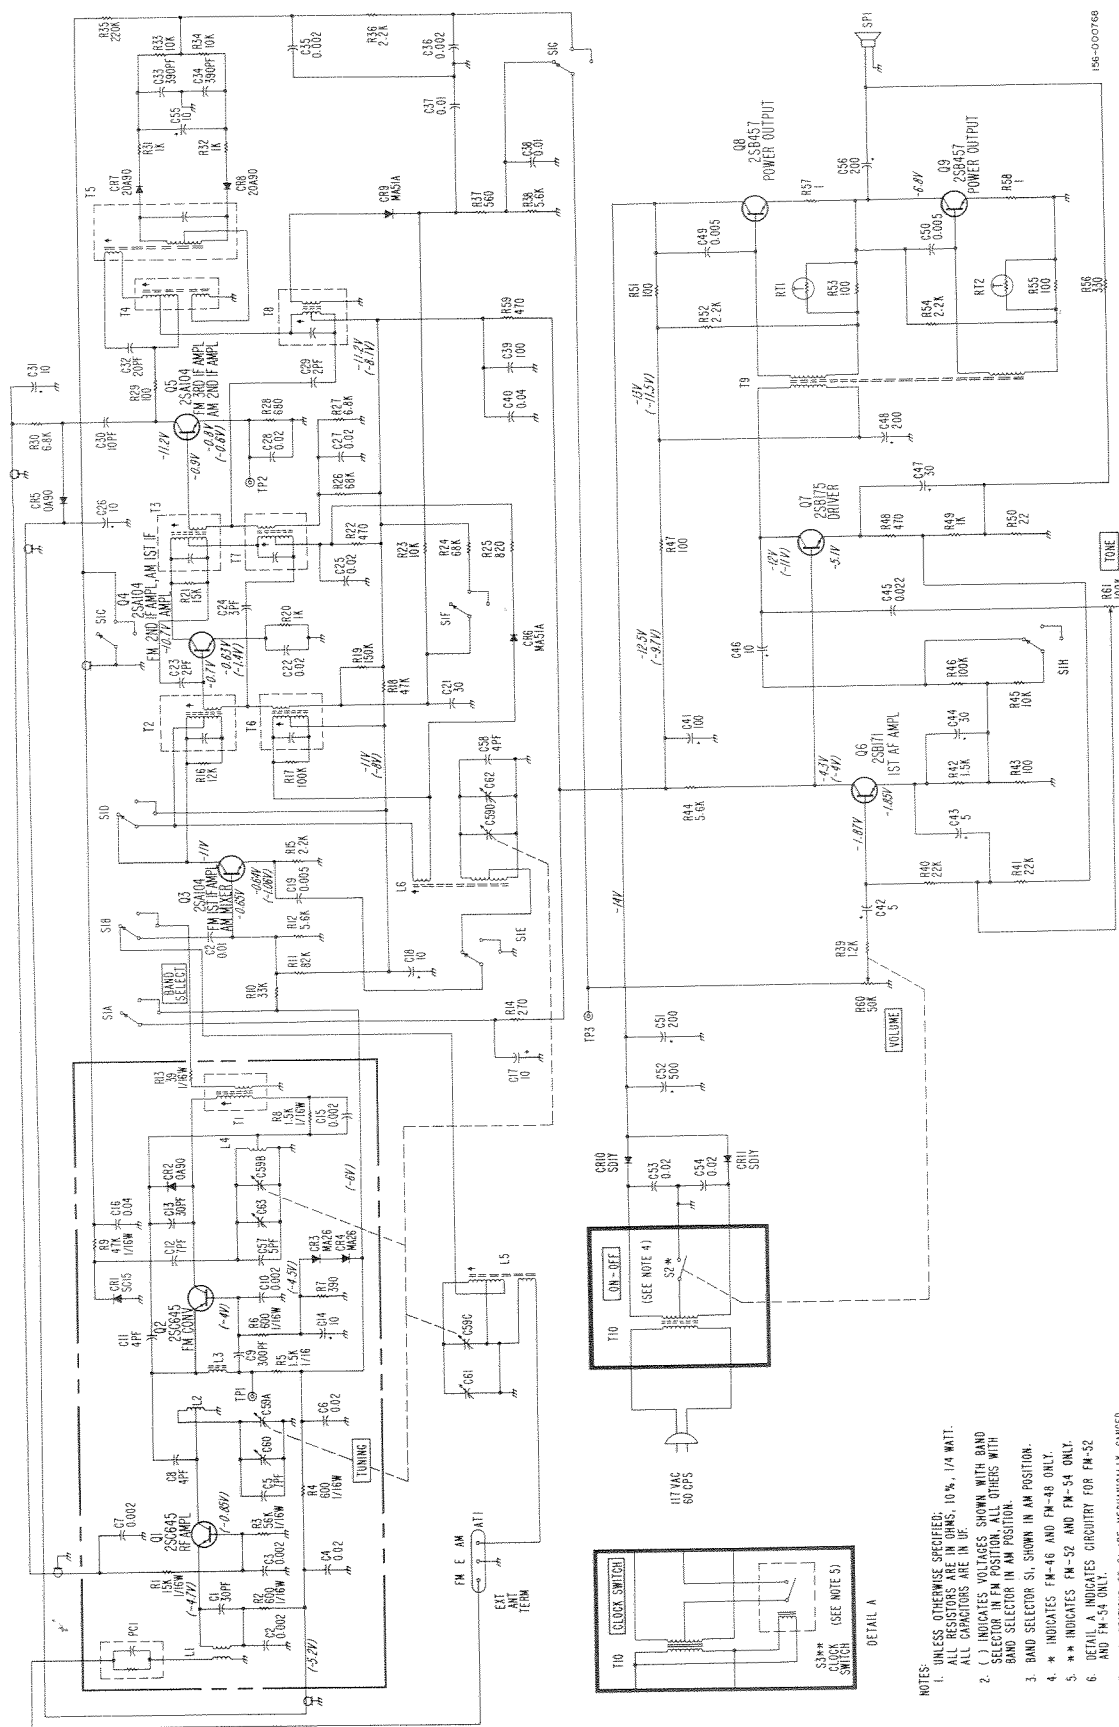

Figure 8. Schematic Diagram. Models FM 46, 48, 52 and 54.
1. The reference designation of C2, connected between the selector switch arm of S1B and the junction of R12 and the base of Q3, should be changed to C20 in the schematic diagram, figure 8.